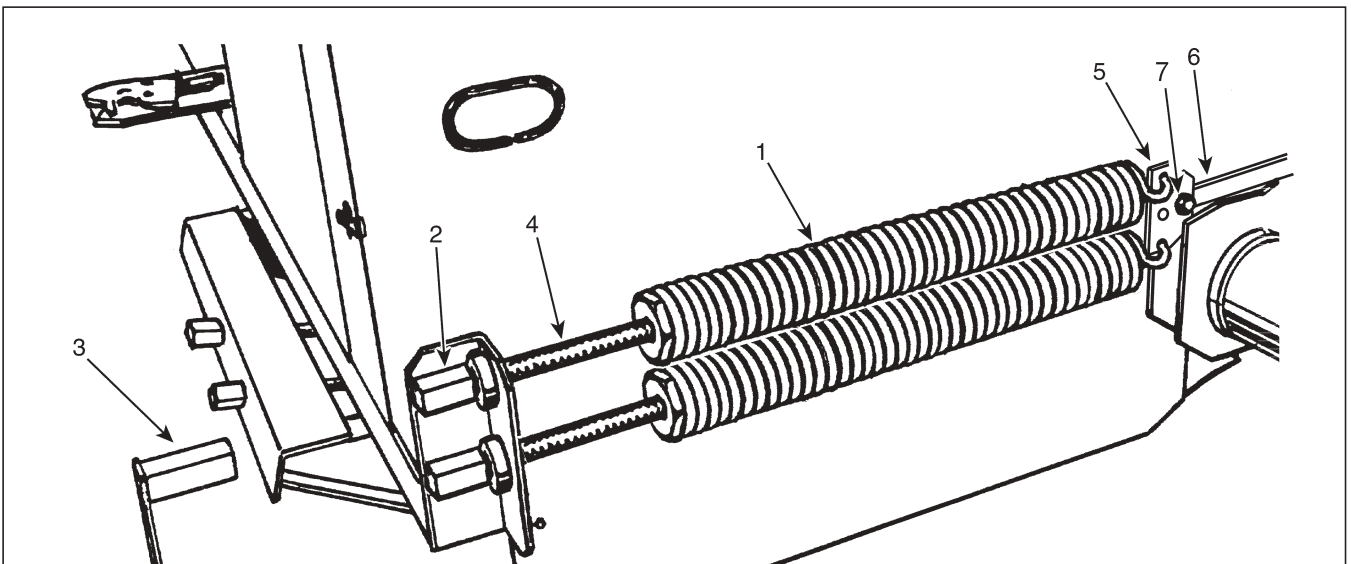

Figure 17 Balancing springs set-up when using a Rotary Corn attachment
6. Adjust both balancing springs (figure 17). The purpose of the balancing springs is to counterbalance the weight of the attachment either to slightly touch the ground or ease the attachment hydraulic lifting to avoid possible obstacles in the field. The tension of these springs must be adjusted to obtain approximately 80-100 lbs (36-45 Kg) at the end of the fingers.